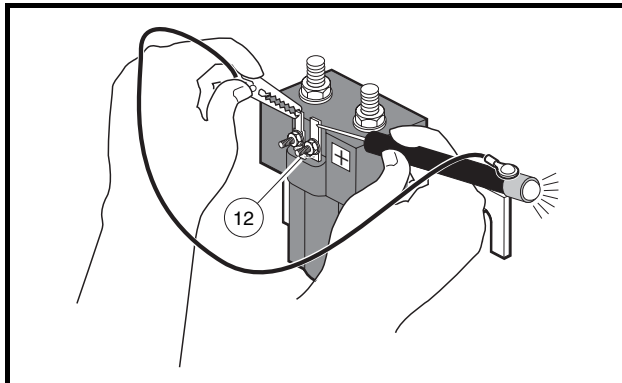

Figure 11-6 Diode Test – Probe Position One
- 3.1. Place the probe end of the tester on the small terminal of the solenoid marked positive (+) and place the alligator clip of the tester on the wire on the other small activating coil terminal (**Figure 11-6, Page 11-15**). The tester should illuminate, indicating continuity.